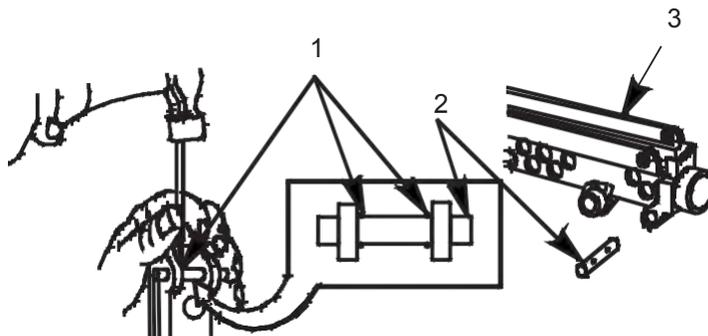

Figure 11. Spring Pins, Retaining Pin, Receiver.
6. Inspect receiver assembly (Figure 11, Item 3) for presence of exterior protective finish. If more than 1/3 of the exterior finish is missing, resulting in an unprotected, light-reflecting surface, turn in receiver for replacement.
8. Drive out two spring pins (Figure 11, Item 1) and discard. Remove tripod retaining pin (Figure 11, Item 2) from receiver (Figure 11, Item 3).
9. Inspect tripod retaining pin (Figure 11, Item 2) for bends or burrs and replace if damaged.